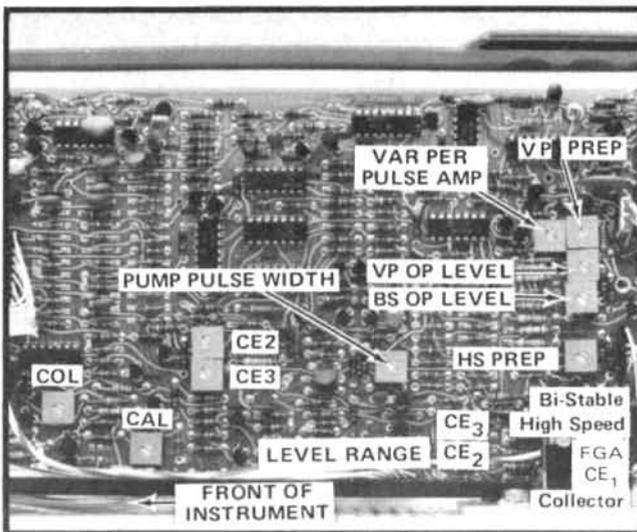

Fig. 2-10. Storage adjustments and storage test points (Cal-Storage board).
42. Check—Storage Test points (see Fig. 2-10)
f. CHECK—Storage test points (see Fig. 2-10). Table 2-4 lists the Storage test points and their voltage tolerances in the Bi-Stable mode. Connect the test oscilloscope 10X probe to each storage test point, in turn setting the test oscilloscope vertical deflection to 1.0 V, 2.0 V, and 5.0 V as required.
j. CHECK—Storage test points (see Fig. 2-10). Table 2-5 lists the storage test points and their voltage tolerance. Connect the test oscilloscope 10X probe to each storage test point, in turn, setting the test oscilloscope vertical deflection to 1.0 V, 2.0 V, and 5.0 V as required.
e. Find lower writing threshold; adjust R1325 toward the zero volt level until the storage screen starts to go dark (see Fig. 2-10 for location of adjustments).
i. CHECK—Storage test points (see Fig. 2-10). Table 2-6 lists the storage test points and their voltage tolerances. Connect the test oscilloscope 10X probe to each storage test point, in turn, setting the test oscilloscope vertical deflection factor to 1.0 V, 2.0 V, and 5.0 V as required.
l. CHECK—Storage test points (see Fig. 2-10). Table 2-7 lists the storage test points and their voltage tolerances. Connect the test oscilloscope 10X probe to each storage test point, in turn, setting the test oscilloscope vertical deflection factor to 1.0 V, 2.0 V, and 5.0 V as required.
p. CHECK—Storage test points (see Fig. 2-10). Table 2-8 lists the storage test points and their tolerances. Connect the test oscilloscope 10X probe to each test point, in turn, setting the deflection factor to 1.0 V, 2.0 V, and 5.0 V as required.